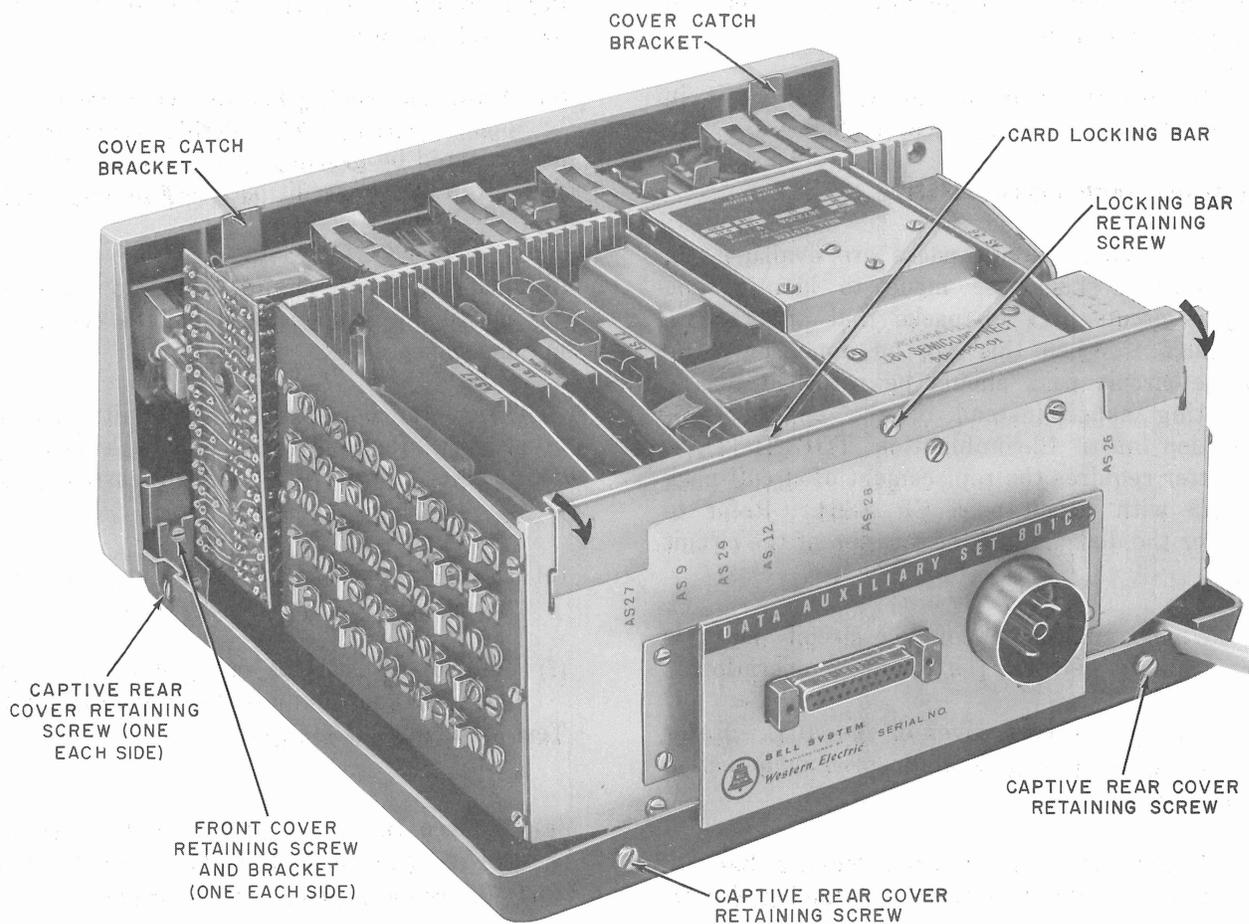

Fig. 2—Data Auxiliary Sets 801C3 and 801C4—Covers Removed
2.01 Refer to Fig. 2 and perform the following operations to remove the cover of the data auxiliary set.
- (a) Loosen but do not remove the four captive rear cover screws located around the basepan (Fig. 2).
- (c) Loosen but do not remove the two front cover retaining screws (Fig. 2).
- (b) Check that the two front cover retaining screws engage the front cover retaining brackets properly (Fig. 2).
- (c) Tighten the two front cover retaining screws (Fig. 2).
- (g) Check that cover catch brackets (Fig. 2) are properly engaged with the rear cover at the front of the unit.
Refer to Fig. 2 for the location of the locking bar retaining screw.